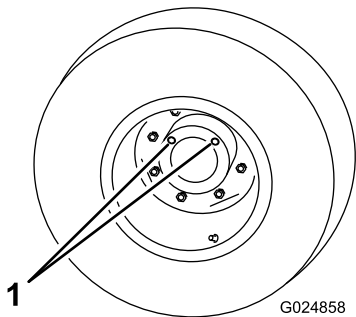

Figure 64
5. Rotate the wheel until the open holes in the planetary are at the 11 and 1 o'clock position (Figure 64).